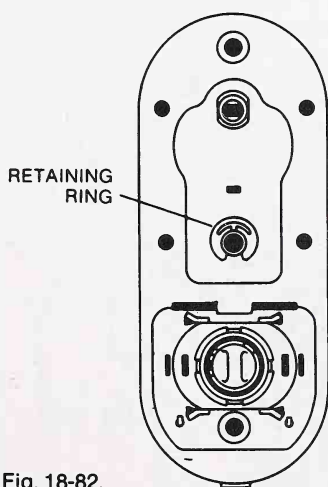

Fig. 18-82.
11. Install the retaining ring (Fig. 18-82).